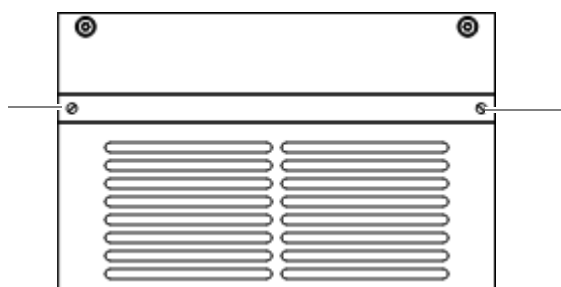

Figure 11.7 Air filter pad holder mounting screws
5. Fit and tighten the air filter pad holder, refer to Figure 11.7.